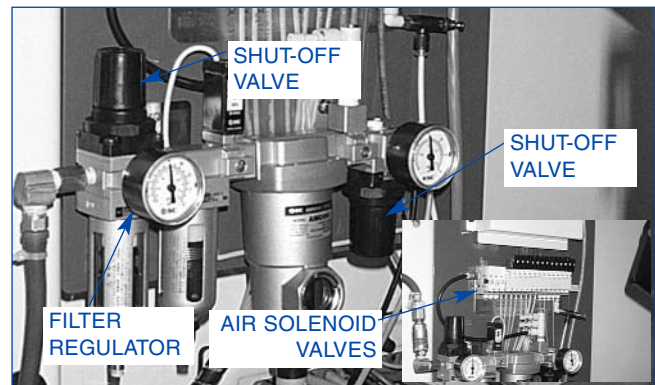

FIGURE 2-9, Filter Regulator
• FILTER REGULATOR is located inside top access Cover, at left end of Machine. It is used to regulate incoming pressure to Machine (see Figure 2-9). Gauge is preset at Factory to 5,52 Bar (80 psi).